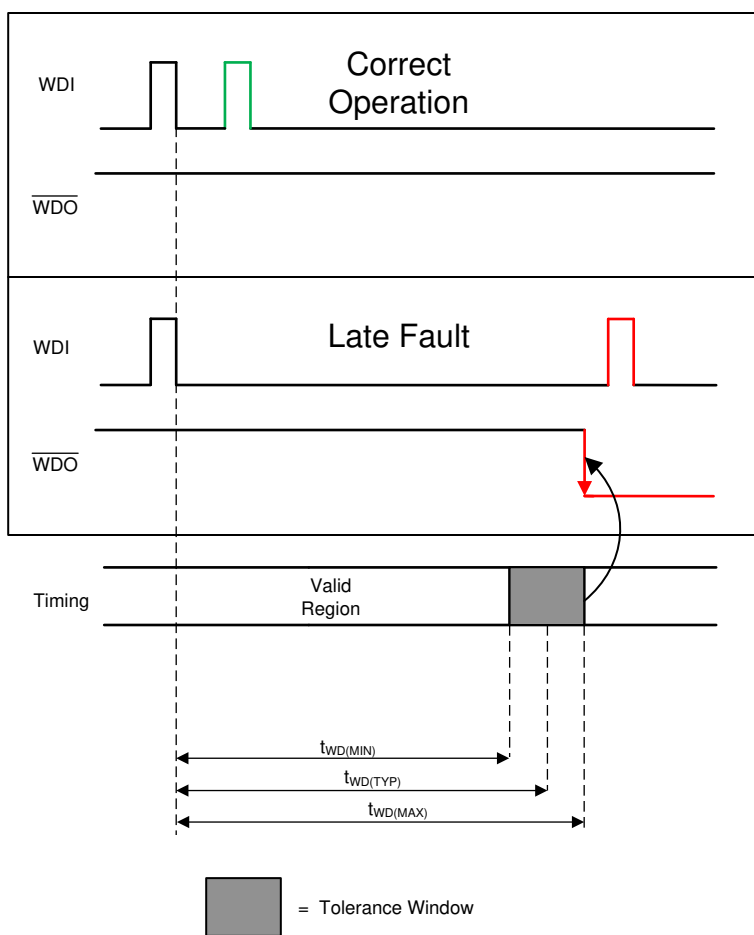

Figure 6-2. Watchdog Timing Diagram
A. See Figure 6-2 for WDI timing requirements.